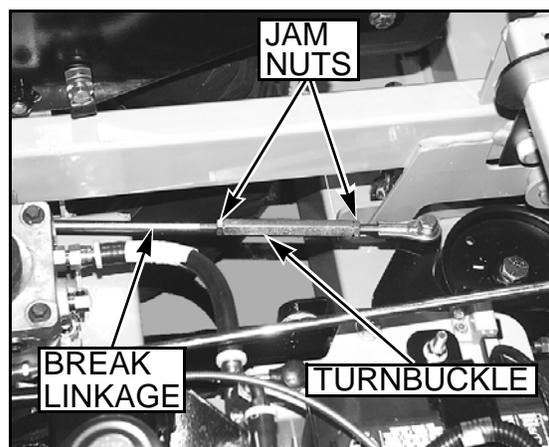

FIG. 27
7. Loosen the brake linkage jam nuts FIG. 27.